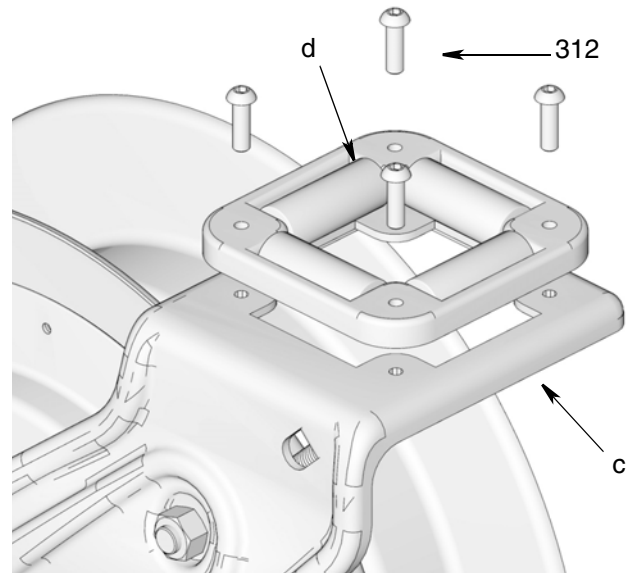

FIG. 9
9. Loosen and remove screws (312) holding reel guide (d) to reel guide arm (c). Completely remove reel guide and cord stop (FIG. 9).